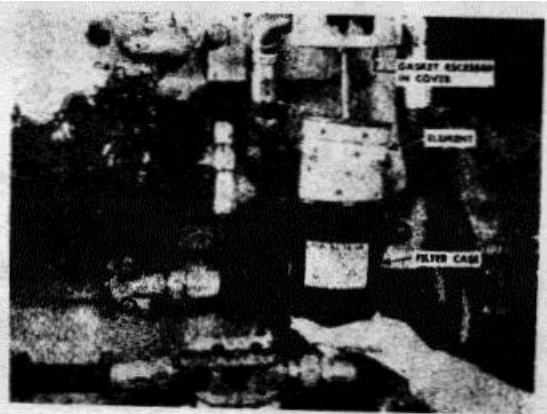

Figure 3-2. Change filter element
2. Take out the dirty element, clean the filter case, and install a new filter element. Fig. 3-2.